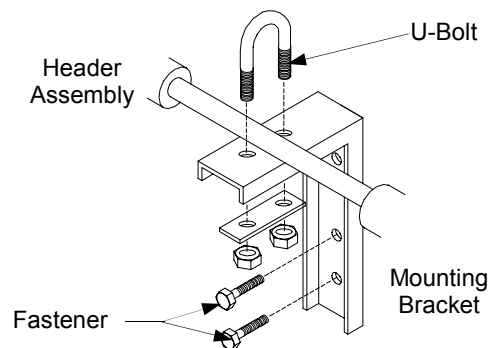

FIGURE 4
5. Mark the mounting holes and install fasteners suitable for the type of wall construction. (Figure 4)